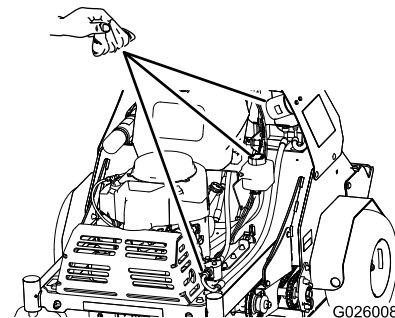

Figure 55
2. Carefully clean area around the front of the auxiliary pump, fill cap for the reservoir, and filter (Figure 55).